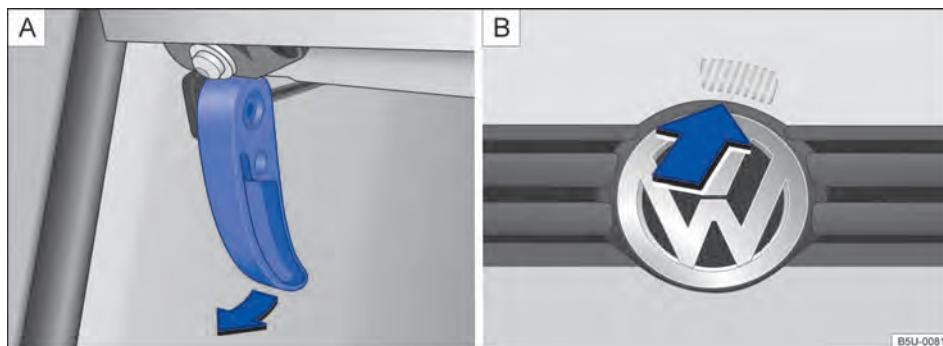

Fig. 185 **A** Bonnet release lever on the driver side footwell. **B** Bonnet release lever on the inner side of the bonnet.
- Ensure that the windscreen wiper arms are positioned on the windscreen before opening the bonnet → ①.
- Pull the release lever in the direction of the arrow → Fig. 185 **A**. The bonnet is released from its lock by a spring mechanism → ▲.
- Slightly lift the bonnet and press the release lever → Fig. 185 **B** located on the inner side of the bonnet simultaneously, in the direction of the arrow, to open the bonnet.